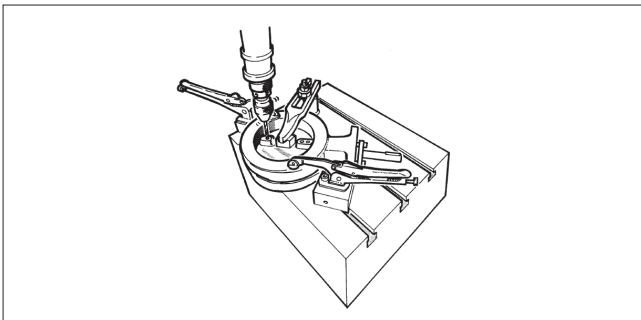

Fig. 16 Pressing the pins
- Remove the clamp ring (2) and seat ring (4) according to section 5.
- Set the valve horizontally on a sturdy surface so that the flat side of the disc lays against the surface (see Fig. 16).